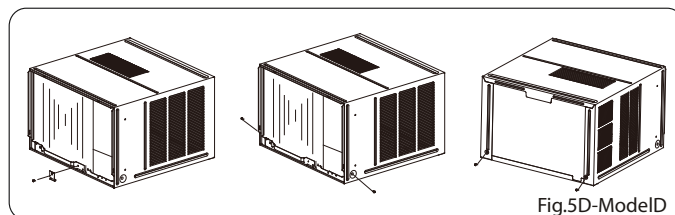

Fig.5D-ModelD
1. Remove one screw securing the chassis fixing bracket, then take down the chassis fixing bracket.(see Fig.5D)
2. Remove four screws located on both sides and the back of the cabinet as shown in Fig.5D.